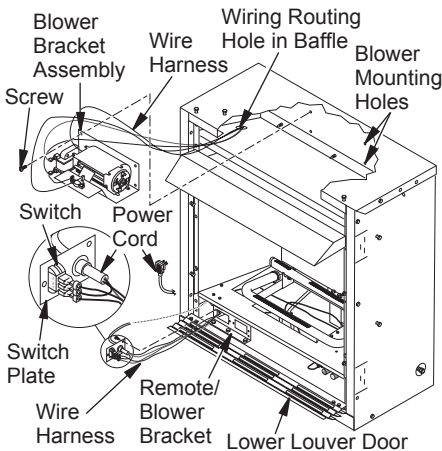
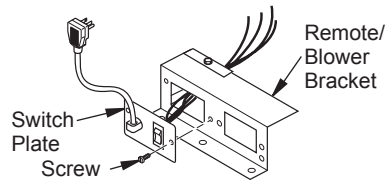

Figure 14 - Installing Blower Bracket Assembly (Remote-Ready Unit Shown)
Figure 16 - Installing Switch Plate to Remote/Blower Bracket
- Note the wire locations on back of AUTO/OFF/ON switch. The terminals on back of switch are numbered 1, 2 and 3. Carefully remove red wire from terminal 3 and blue wire from terminal 1. Black wire can remain on middle terminal 2 (see Figure 14).
- In top of the fireplace cabinet, locate the four mounting holes on the outer casing. Align these four holes with those on the blower bracket assembly. Attach blower bracket assembly to the outer casing with 4 #10 screws provided (see Figure 14).
- Insert the 4 wire harnesses from behind the remote/blower bracket through hole in rear of bracket with bushing and through the left rectangular hole to front of fireplace (see Figure 14).
- Install the switch plate on the remote/blower bracket with 2 #10 screws provided (see Figure 16). Route power cord out of the cabinet by inserting it through the bushing on the outer casing (see Figure 14). Plug fan kit into 120-Volt grounded power supply and test operation. Note: When switch is in the AUTO position, the fan will start after the fireplace has run for a few moments. The fan will continue to run for several moments after the fireplace has been turned off. When switch is in the ON position, the fan will run until turned to OFF.